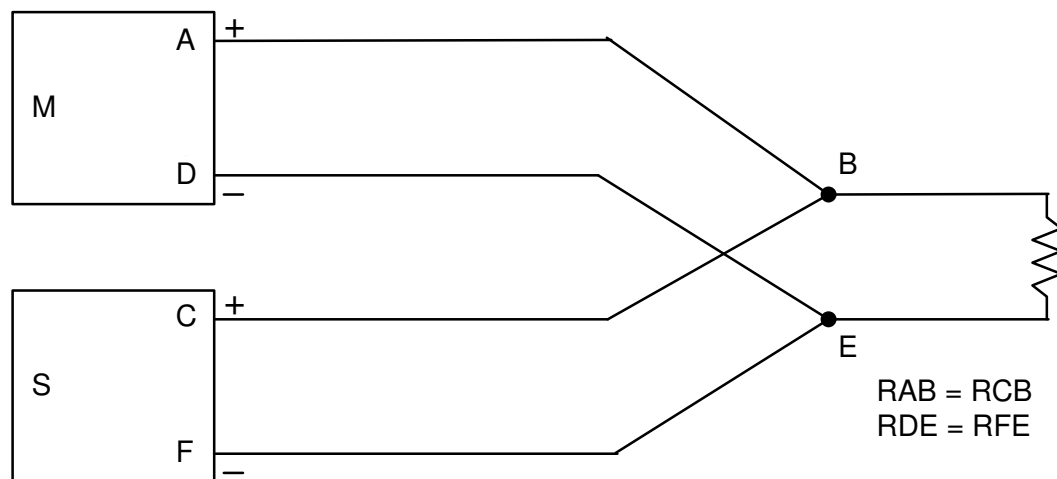

FIGURE 9: MASTER/SLAVE POWER CONNECTION
### III.3.7 parallel operation (figure 9)
- 4) See Figure 9 for + and - power connections.